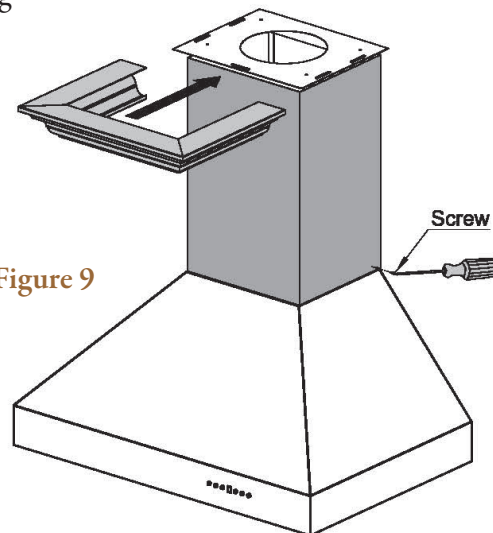

Figure 9
- 10 Slide crown molding over mounting bracket. (Figure 9)